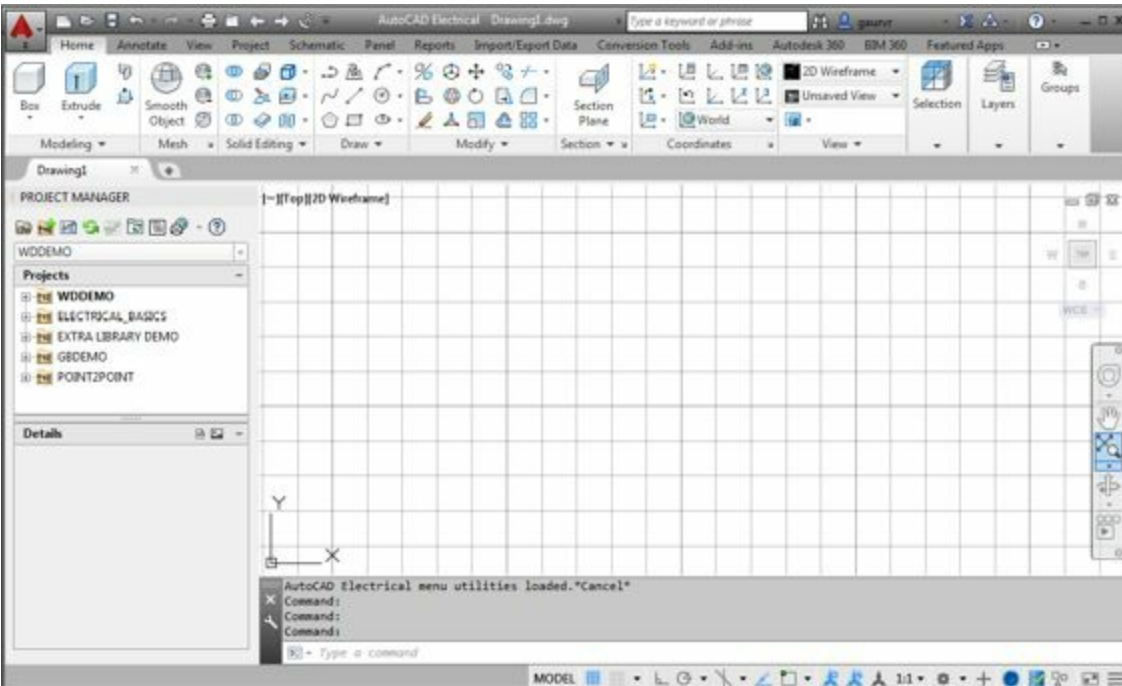

Figure-4. AutoCAD Electrical with acadiso template
- Select the desired template from the list. The drawing environment will open according to the selected template; refer to Figure-4.